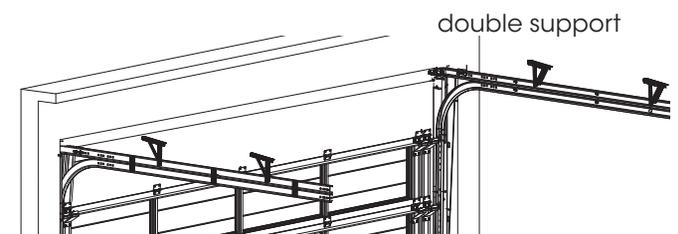

Fig: 3.4.4
**WARNING!** For all doors higher than 2450mm and wider than 4700mm, two (2) ceiling supports must be fitted per horizontal track at 1300mm & 2600mm Fig 3.4.4.